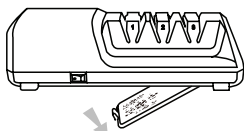

Figure 9
- 1) Dismantle the sharpening dust drawer: as shown in Figure 9, open up the sharpening dust drawer.